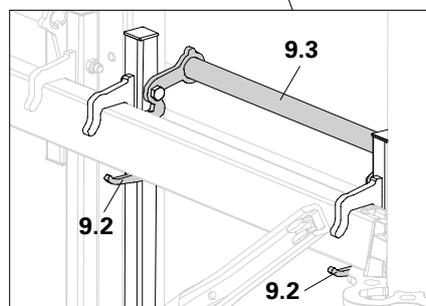

Fig. A1.09a
→ Red tipping bar (9.3) folds down and secures the red side against lifting. (Fig. A1.09a)
Does the counterholder (9.2) grip the Ledger from below? (Fig. A1.09a)
- Is the red bar (9.3) folded downwards? (Fig. A1.09a)